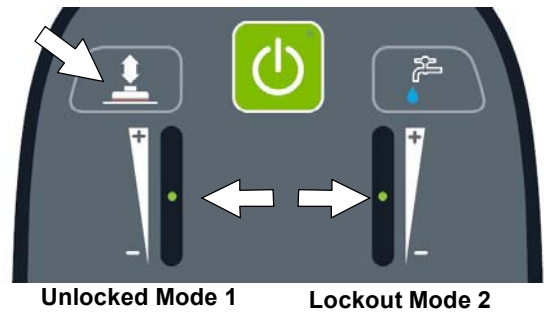

FIG. 154
3. Press the brush pressure button to toggle between the two modes (Figure 154). The LED of the selected mode will blink until saved.